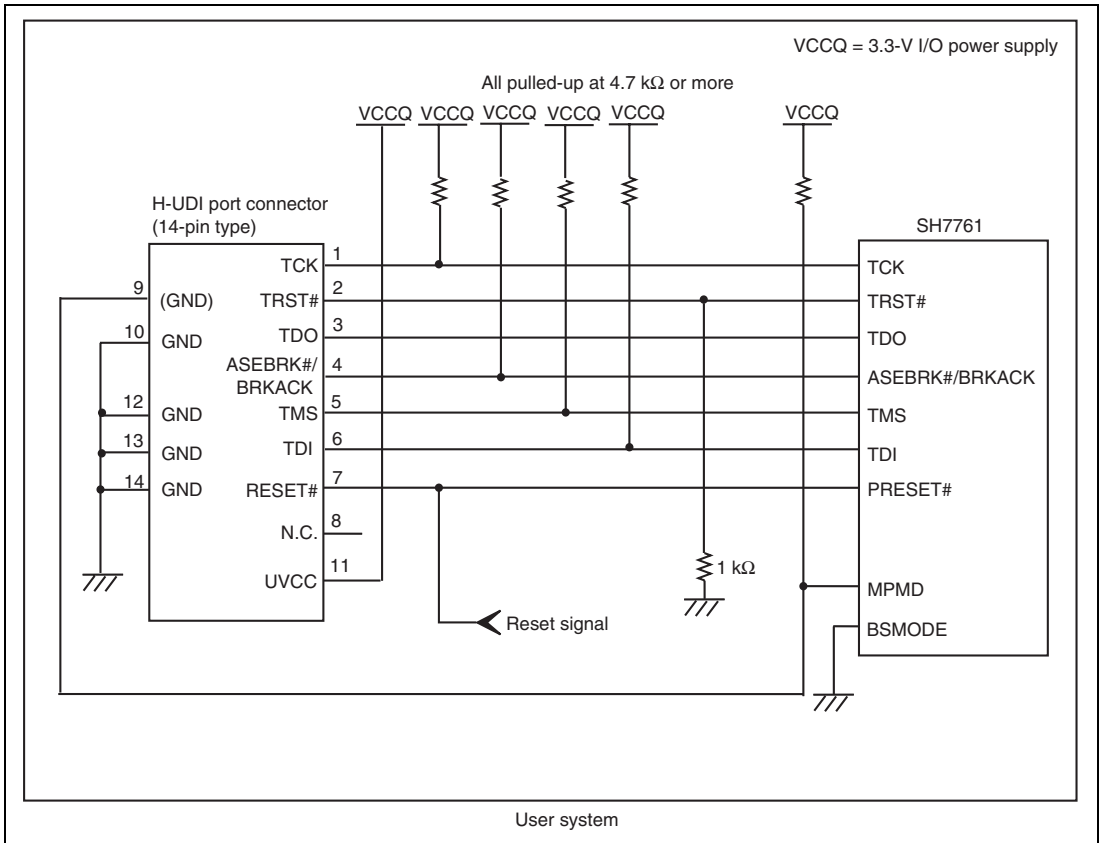

Figure 1.2 Recommended Circuit for Connection between the H-UDI Port Connector and MPU when the Emulator is in Use (14-Pin Type)
Figure 1.2 shows a recommended circuit for connection between the H-UDI port connector (14 pins) and the MPU when the emulator is in use.
(1) When the emulator is used: MPMD = 0
(2) When the emulator is not used: MPMD = 1
Figure 1.2 shows an example of circuits that allow the MPMD pin to be GND (0) whenever the emulator is connected by using the user system interface cable.
6. The resistance value shown in figure 1.2 is for reference.
When the circuit is connected as shown in figure 1.2, the switches of the emulator are set as SW2 = 1 and SW3 = 1. For details, refer to section 3.8, Setting the DIP Switches, in the SuperH™ Family E10A-USB Emulator User's Manual.